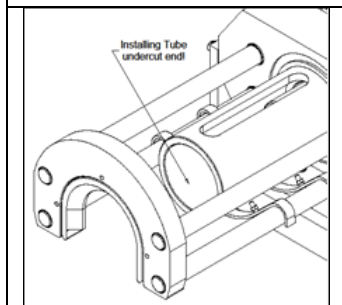

Figure 23 – Installing Tube Alignment
- 5.3.8 Regulate the Installing Tube Cradle Adjusting screws to properly align the Installing Tube with the recess in the Hydraulic Cylinder Mounting Plate so that they will engage correctly (Figure 23). Normally this adjustment needs only to be made once and is not necessary each time a bearing assembly of the same size is to be installed.